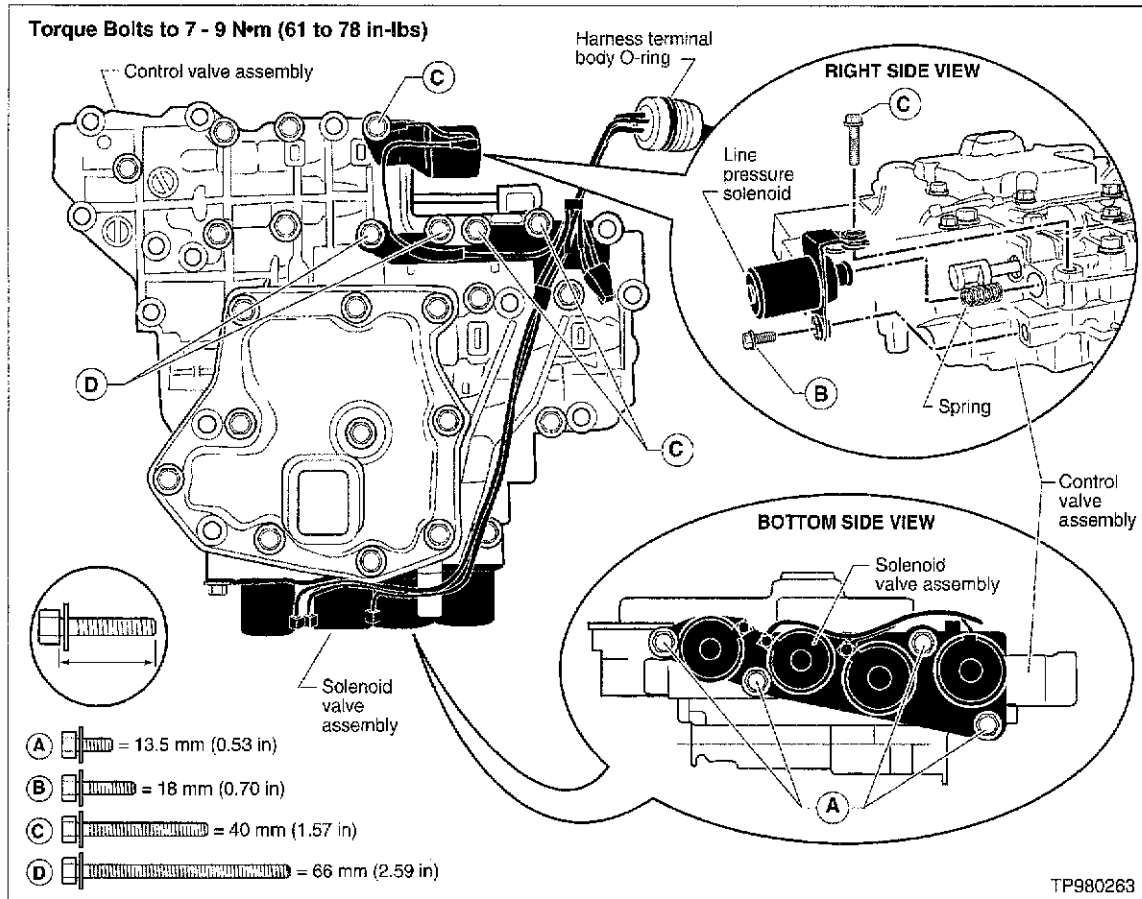

Figure 3
7. Remove the solenoid valve assembly from the control valve assembly (see Figure 3).
10. Install the new solenoid valve assembly onto the control valve assembly, ensuring the line pressure solenoid spring is re-installed (spring P/N: 31742-80X11). Then use an appropriate torque wrench to tighten all mounting bolts to 7 - 9 N•m (61 - 78 in-lbs) (see Figure 3).
IMPORTANT: The solenoid valve assembly is secured with bolts of varying lengths. Make sure the bolts are re-installed in their original locations (see Figure 3).